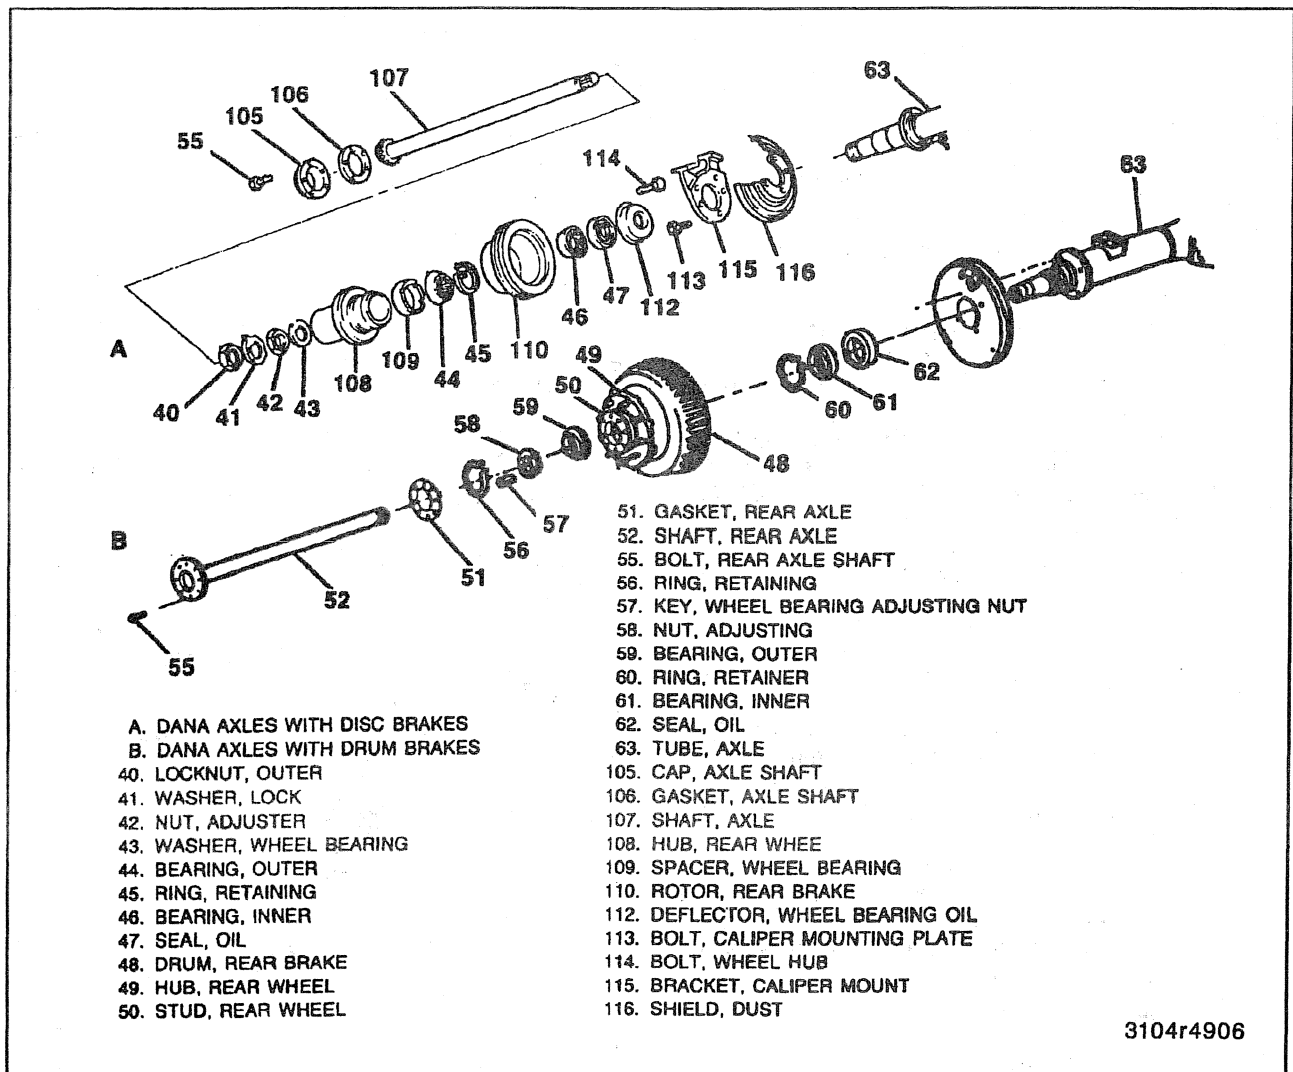

Figure 27—Full-Floating Axle, Wheel End Components
1. Bolts. If the vehicle is equipped with rear disc brakes the axle cap must also be removed (figure 27).
Remove or Disconnect (Figures 27 and 28)
Install or Connect (Figures 27 and 28)
Remove or Disconnect (Figures 27 and 29)
Install or Connect (Figures 27, 30 through 32)